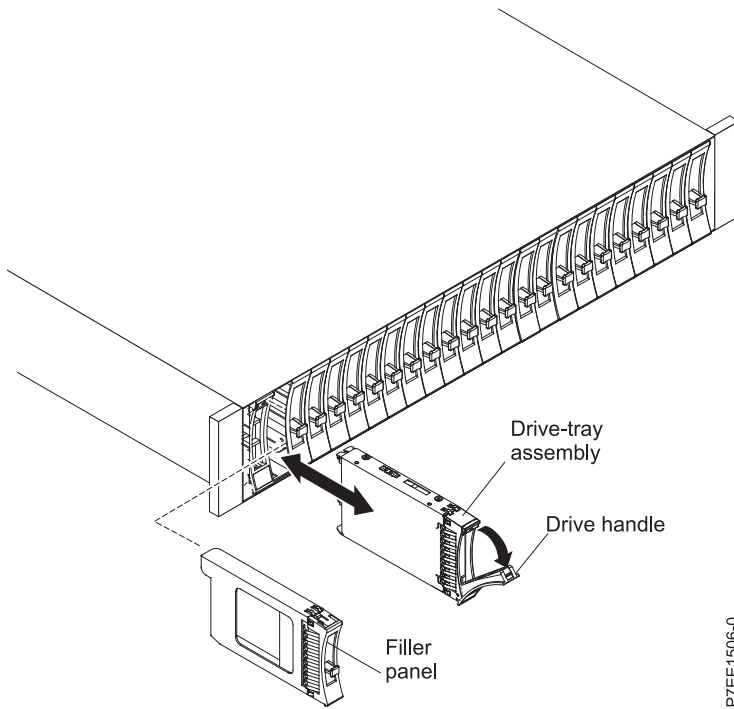

Figure 24. Removing a drive from the 5887 disk drive enclosure
4. Grasp the front of the drive and pull it out from the slot, ensuring that you support the bottom of the drive, as shown in Figure 24 on page 24.